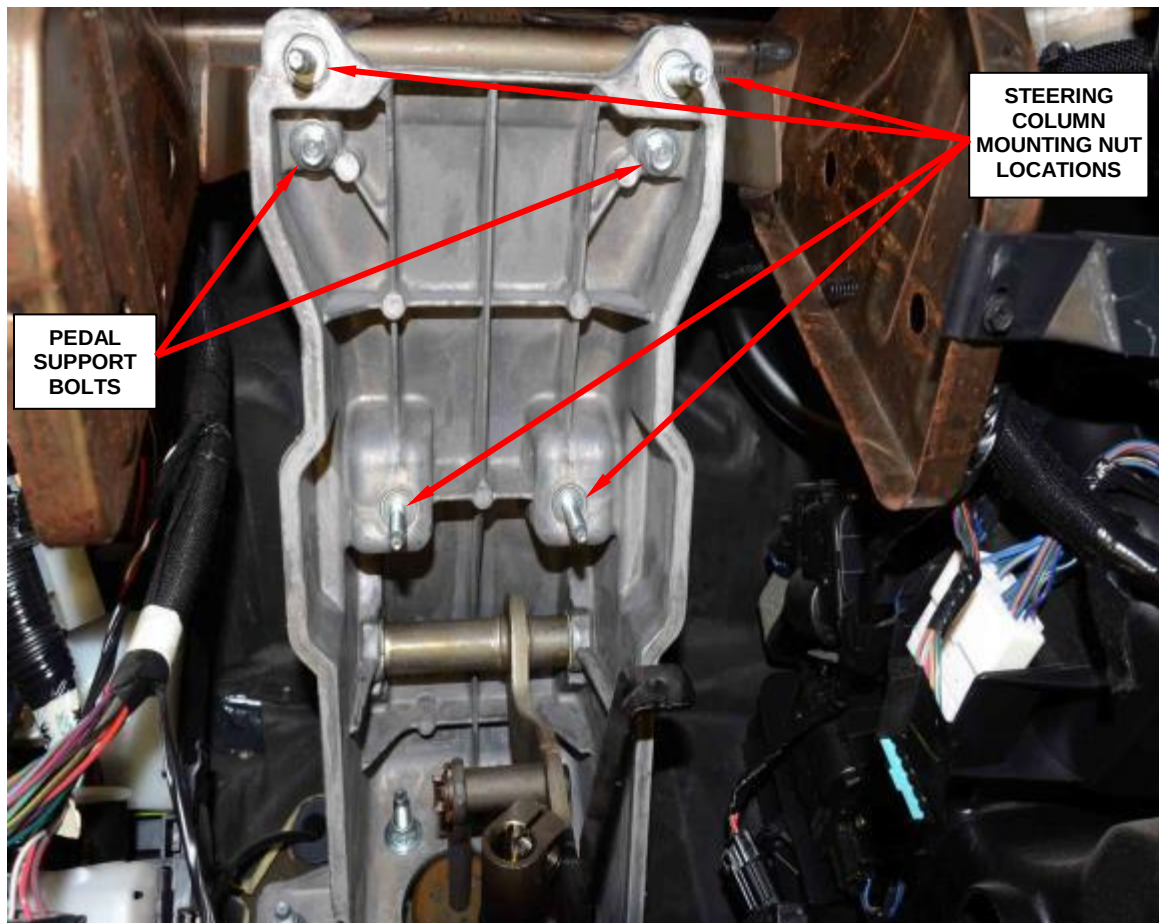

Figure 133 – Pedal Support Bolts
11. Disconnect the brake switch electrical connector (Figure 133).